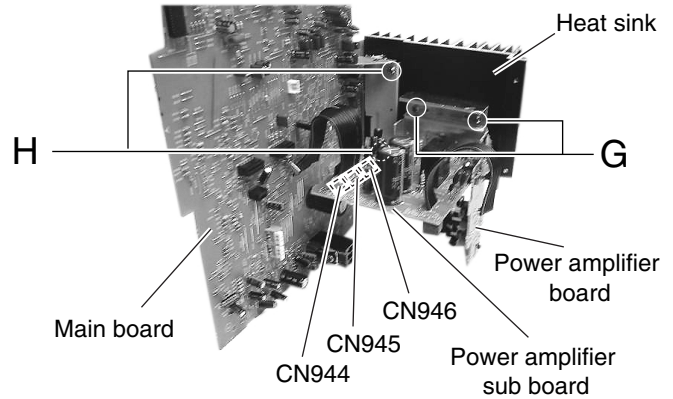

Fig. 17
**■ Removing the power amplifier board / power amplifier sub board / heat sink (See Fig. 17)**
**■ Removing the heat sink (See Fig. 17)**